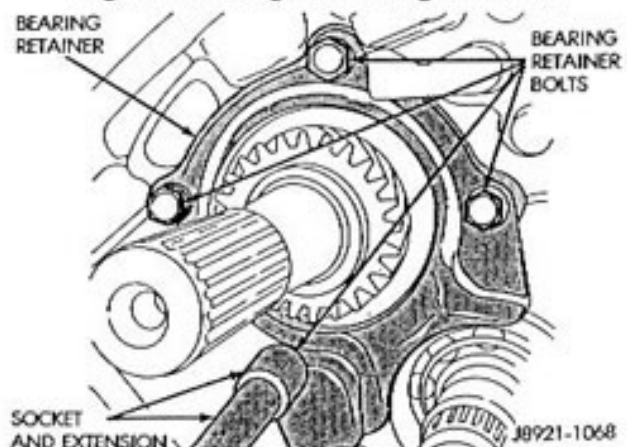

Fig. 38 Removing Output Shaft Rear Bearing Retainer Bolts
(19) Remove the bolts attaching the output shaft rear bearing retainer to the intermediate plate (Fig. 38).